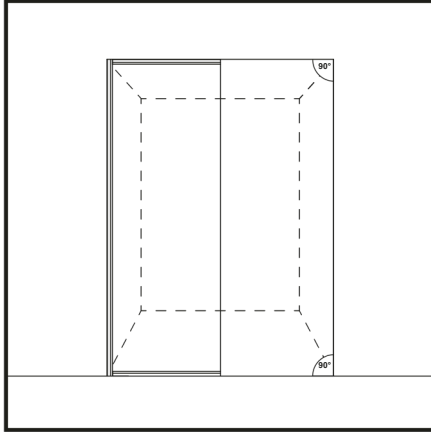

Figure 1
2. Before starting installation work, check that the doorway is level and of the correct size, both vertically and horizontally. Ensure that all corners of the doorway are at a 90° angle and that the door size fits into the doorway. (Figure 1)